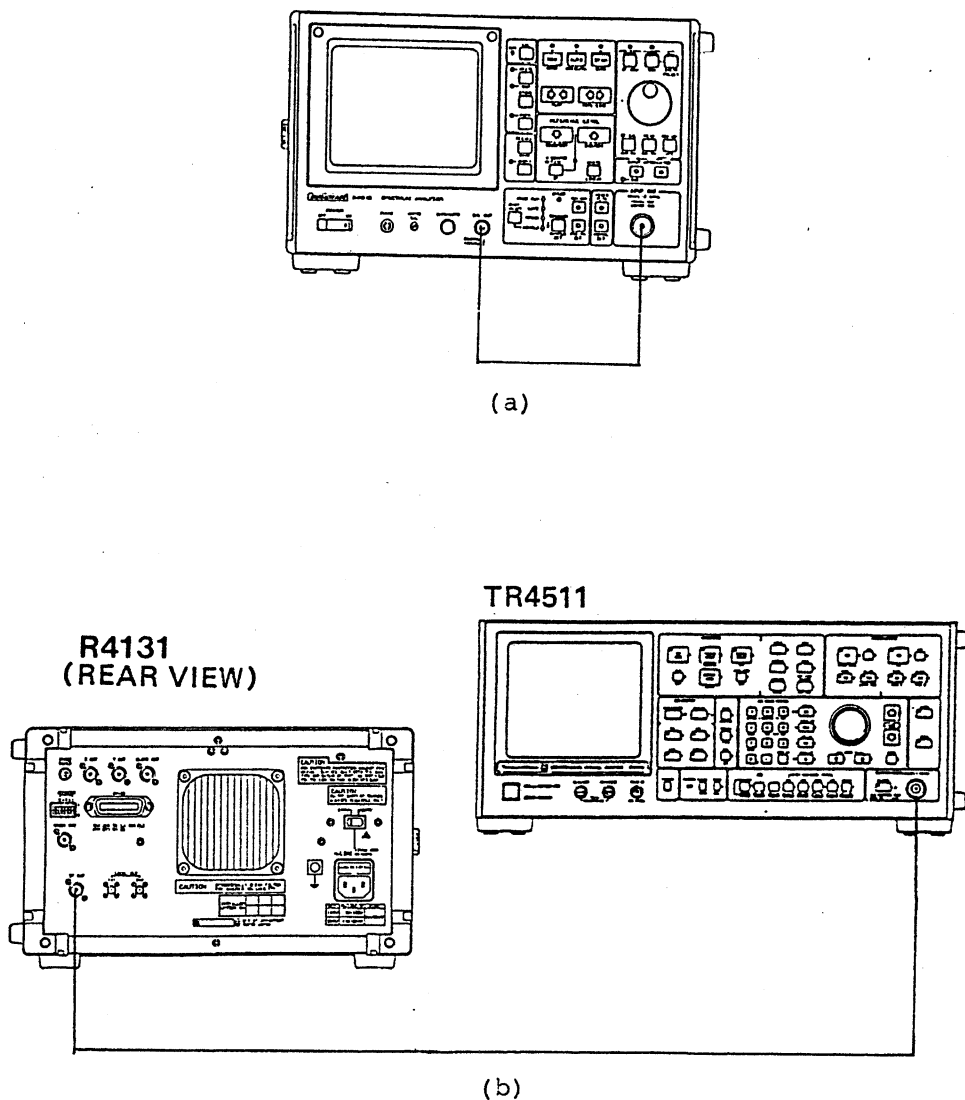

Figure 11-12 Resolution Bandwidth Accuracy Test Setup
(2) Procedure
- ① Connect the calibration signal of the spectrum analyzer to the INPUT connector as shown in Figure 11-12 (a).
- ⑧ In testing resolution bandwidths 3 kHz to 1 kHz, remove the top cover of the spectrum analyzer and apply 3.58 MHz, -20 dBm signals to the IF FILTER IN connector from the synthesized signal source. (See Figure 11-12 (b).)
- ⑨ Set the spectrum analyzer resolution bandwidth to 3 kHz and adjust the output frequency of the synthesized signal source for the maximum waveform peak by varying the output frequency at the 10 Hz place.
- ⑩ Adjust the output level of the synthesized signal synthesized source to bring the spectrum analyzer display level to 1.5 divisions above the horizontal axis in the center of the display screen.
- ⑪ Reduce the output frequency of the synthesized signal source until the waveform peak displayed on the display screen coincides with the horizontal axis in the center of the display screen. Record this output frequency as f1.
- ⑫ Next, increase the output frequency of the synthesized signal source until the waveform peak rises once above the horizontal axis in the center of the display screen, and then correspondingly falls. Record this output frequency as f2.
- ⑬ Determine the 3 dB bandwidth by calculating f2 minus f1. Check that this value falls between 2.4 and 3.6 kHz (3 ±0.6 kHz or less).
- ⑭ Test resolution bandwidths, 1 kHz according to Table 11-5. Keep records of the resultant 3 dB resolution bandwidth values for use in the resolution bandwidth selectivity test described in Section 11.8.
- ④ Turn the AMPTD CAL control to bring the signal peak to the top graticule on the display screen.
- ⑤ Turn the TUNING dial to position the 60 dB point for the best reading.
- ⑥ Measure and record the 60 dB bandwidth. Check that the ratio of the 60 dB bandwidth to the 3 dB bandwidth measured in Section 11.7 is 15 or less.
- ⑦ Repeat steps ③ to ⑥ for resolution bandwidths of 300 kHz to 10 kHz as well.
- ⑧ Connect the output of the synthesized signal source to the spectrum analyzer IF FILTER IN connector as shown in Figure 11-12 (b).
- ⑨ Set the output frequency of the synthesized signal source to 3.58 MHz (CW), -20 dBm.
- ⑩ Adjust the output frequency of the synthesized signal source for a maximum reading on the R4131 display screen, and set the signal to be on the reference graticule.
- ⑪ Increase the output frequency of the synthesized signal source until the signal level is reduced 60 dB (6 graticules). Now measure and record this frequency as f1.
- ⑫ Reduce the output frequency of the synthesized signal source until the signal level is up 60 dB (6 graticules). Again, measure and record this frequency as f2.
- ⑬ Determine the 60 dB bandwidth by calculating f1 minus f2. Check that the following relation holds: 60 dB bandwidth/3 dB bandwidth  $\leq$  15.
- ⑭ Repeat steps 10 to 13 for resolution bandwidth of 1 kHz.